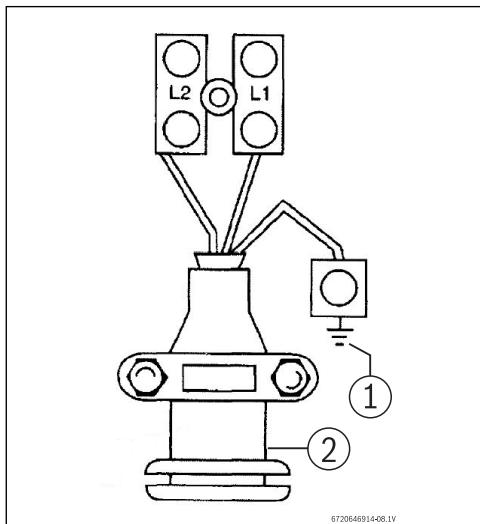

Fig. 3 Cable termination
- ▶ Connect the cables to the terminal block and ground stud (Fig. 3):